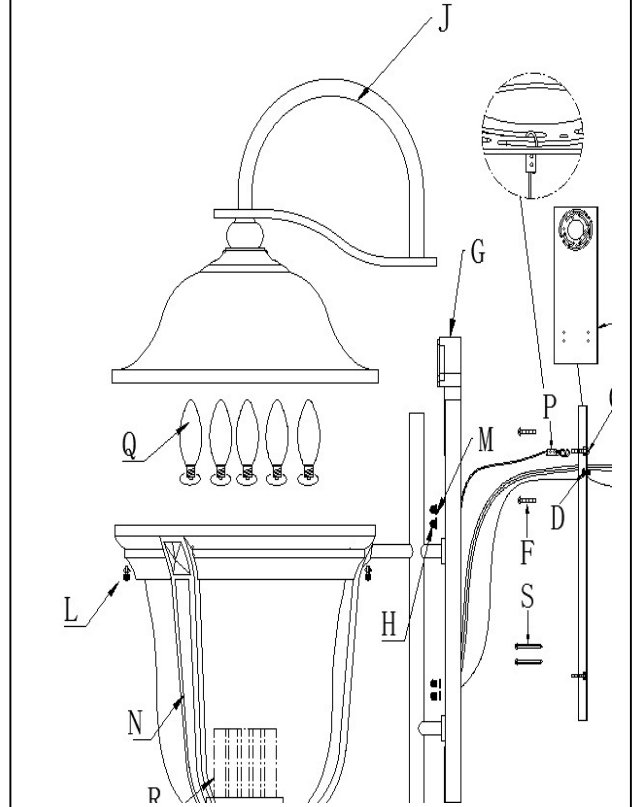

Fig. 2
CONNECTING THE WIRES (Fig. 2)
6. Connect the electrical wires as shown in Fig.2 with connectors (E), making sure that all wire connectors are secured. If your outlet box (A) has a ground wire (green or bare copper), connect the fixture's ground wire to it. Otherwise, connect the fixture's ground wire directly to the mounting plate (B) using the green screw (D) provided. After the wires are connected, carefully tuck them inside the outlet box (A).